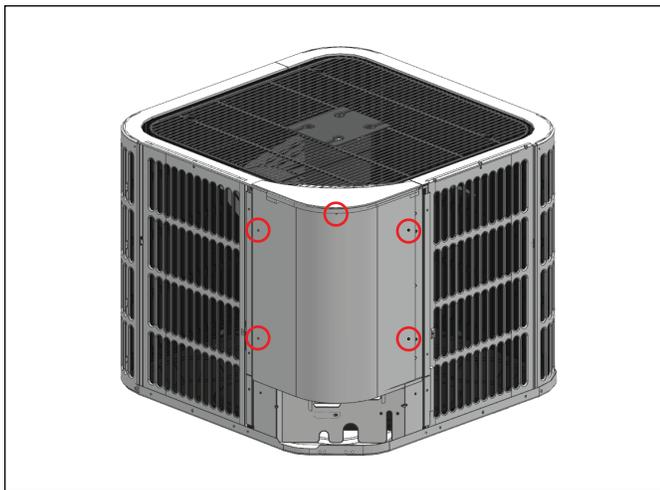

Figure 2 Control Board Access
2. Remove the access panel to the control board (Figure 2). Keep Screws for re-use.